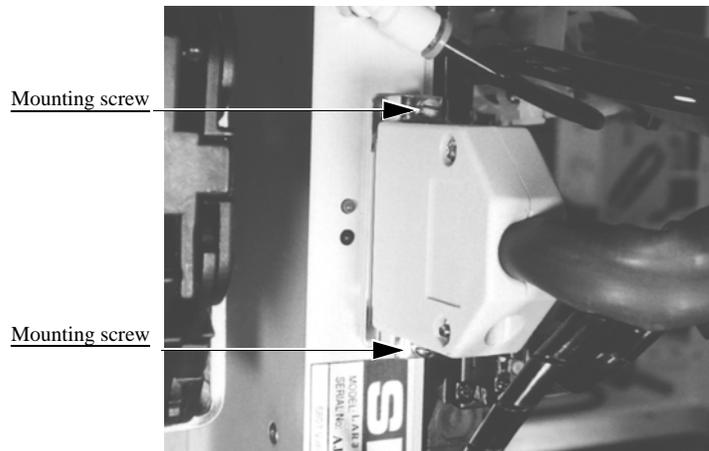

Figure 6-12—PNP head mounting screws
- 1a) Check and if necessary tighten the mounting screws of the PNP head wiring harness. See Figure 6-12.